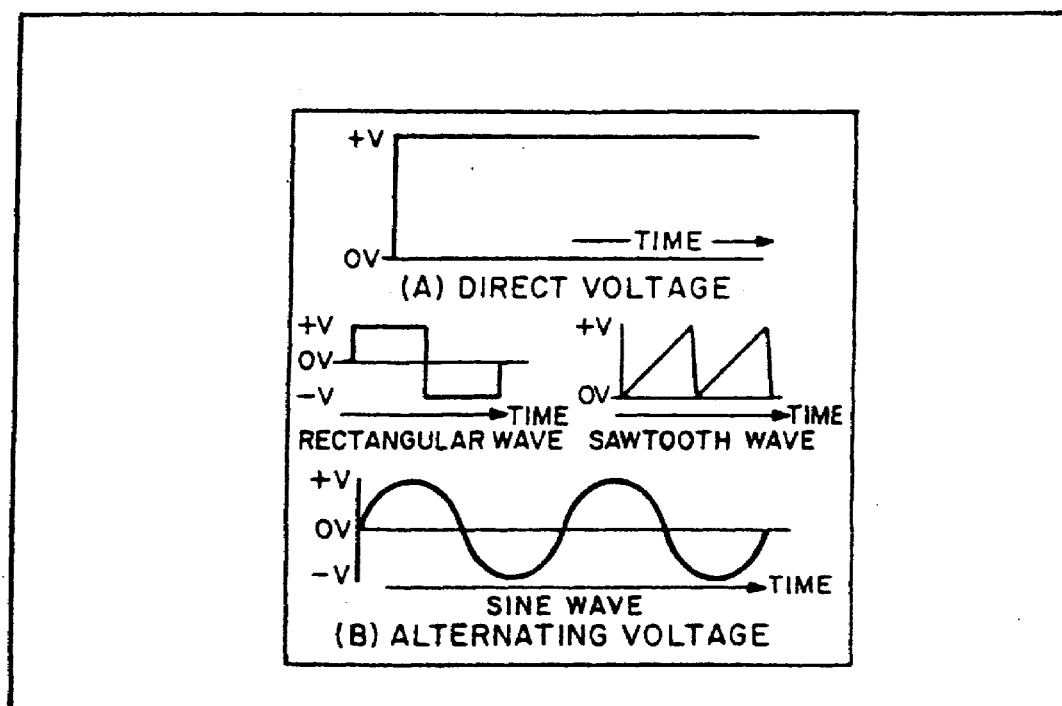

FIGURE 52. VOLTAGE WAVEFORMS.
c. *Voltage Waveforms.* We now know that there are two types of current and voltage, that is, direct current and voltage and alternating current and voltage. If a graph is constructed showing the amplitude of a dc voltage across the terminals of a battery with respect to time, it will appear as in figure 52, view A, on the following page. The dc voltage is shown to have a constant amplitude. Some voltages go through periodic changes in amplitude like those shown in figure 52, view B. The pattern which results when these changes in amplitude with respect to time are plotted on graph paper is known as a WAVEFORM. Figure 52, view B, shows some of the common electrical waveforms. Of those illustrated, the sine wave will be dealt with most often.
d. *Electromagnetism.* The sine wave illustrated in figure 52, view B, is a plot of a current which changes amplitude and direction. Although there are several ways of producing this current, the method based on the principles of electromagnetic induction is by far the easiest and most common method in use.